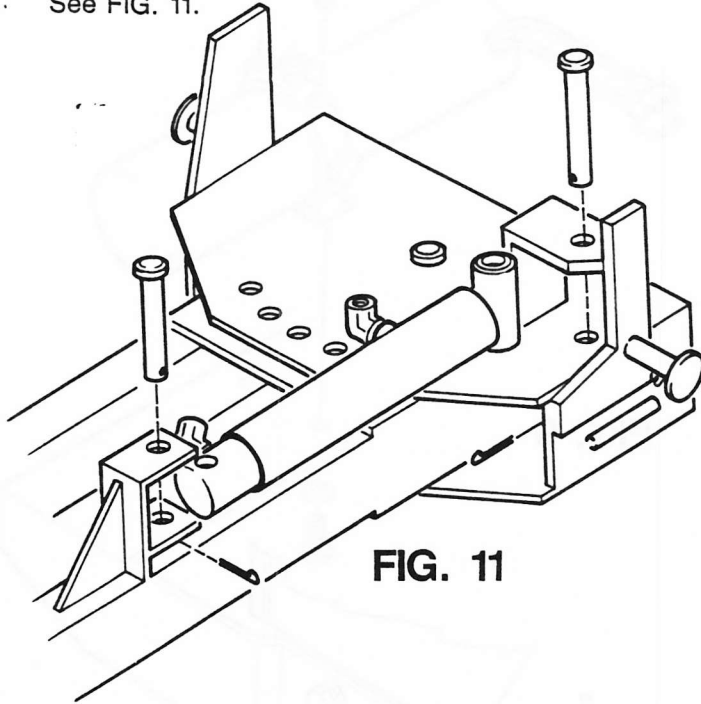

FIG. 11
6. Attach the rod of the angle cylinder to the pivot. Secure with a $\frac{3}{4}$ x 4 clevis pin and $\frac{5}{32}$ x $1\frac{1}{2}$ cotter pin. See FIG. 11.
7. Attach the angle cylinder to the sub-frame. Secure with a $\frac{3}{4}$ x $3\frac{1}{2}$ clevis pin and $\frac{5}{32}$ x $1\frac{1}{2}$ cotter pin. See FIG. 11.